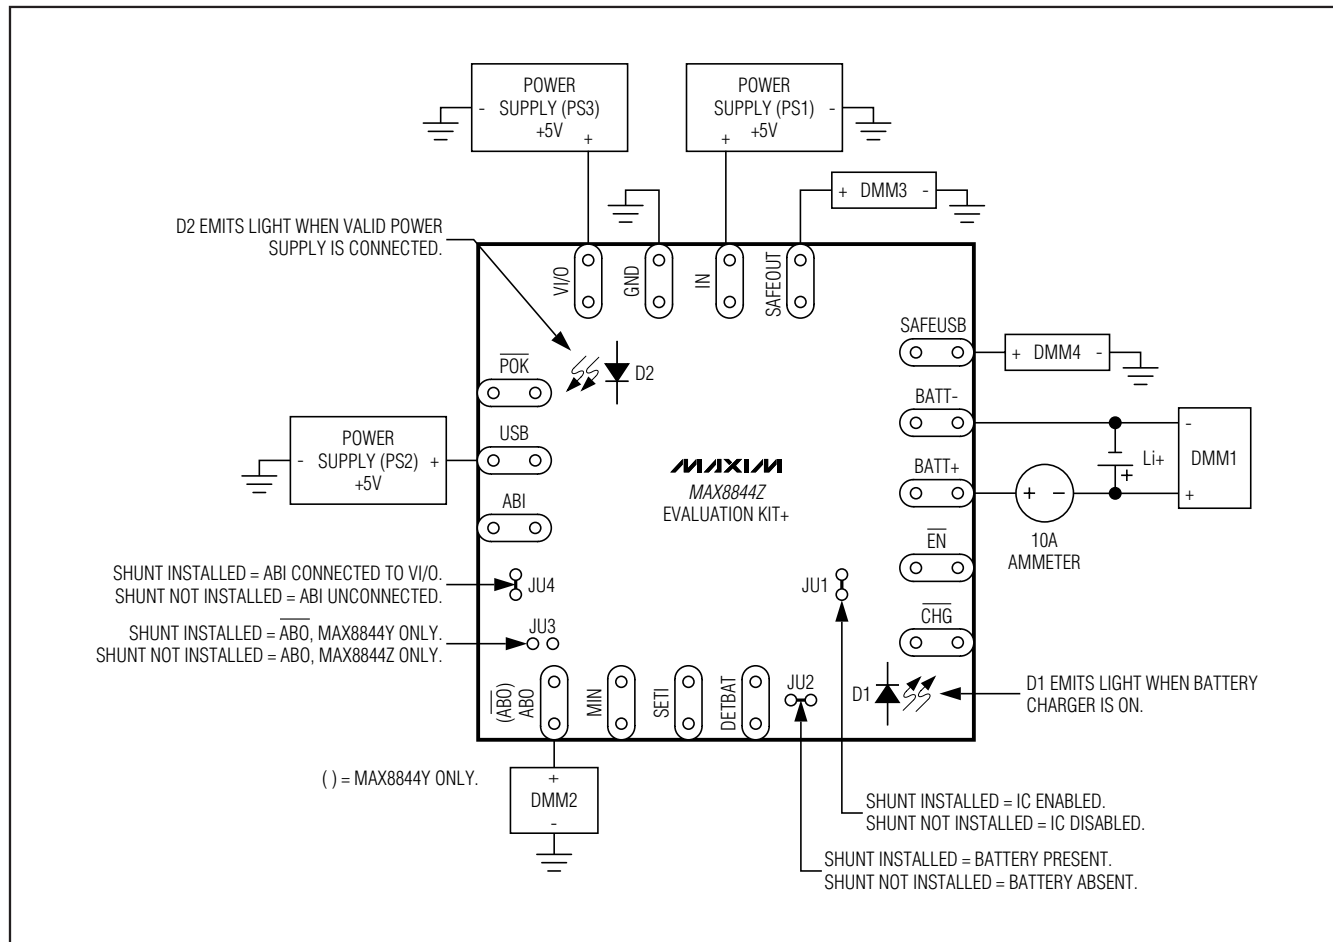

Figure 1. Test Procedure Setup for MAX8844Z EV Kit
The MAX8844Z EV kit is a fully assembled and tested surface-mount board. Follow the steps below and Figure 1 to set up and verify the MAX8844Z and board operation. **Caution: Do not turn on the power supplies until all connections are completed.**
- 10) Observe correct Li+ cell polarity. Connect the single-cell Li+ battery and 10A ammeter, as shown in Figure 1. The positive lead of the ammeter must
To evaluate the MAX8844Y and board operation, see Figures 1 and 3 and follow the same steps as listed in the *Quick Start/Procedures* section, but with the following procedure:
- 10) **Observe correct Li+ cell polarity.** Connect a single-cell Li+ battery and 10A ammeter, as shown in Figure 1. The positive lead of the ammeter must connect to BATT+ and the negative lead to the positive terminal of the Li+ battery.